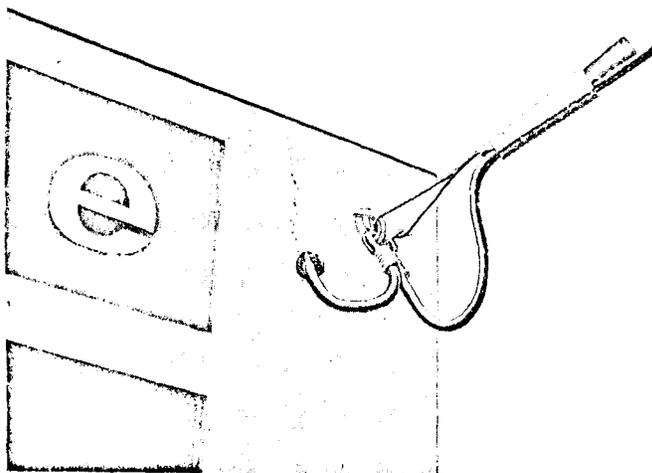
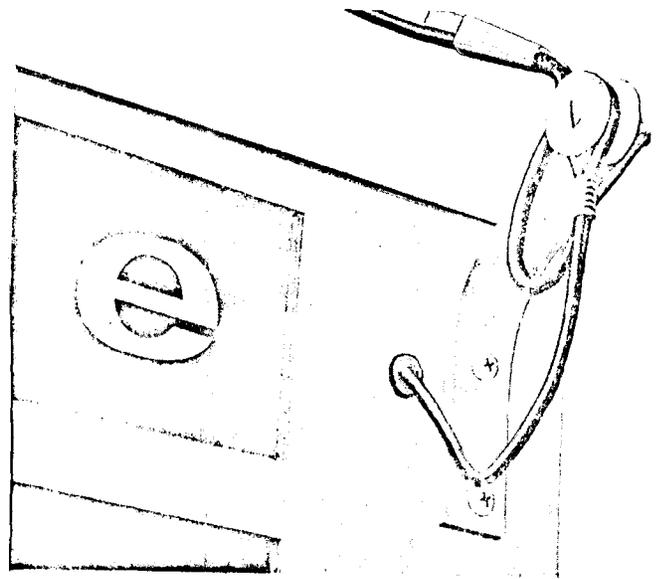

Fig. 4 —Drop Wire Hook for First Attachment
Fig. 5 —Corner Bracket for First Attachment
3.06 Attach drop wire hook (Fig. 4) or corner bracket (Fig. 5) (whichever is required) on right rear column adjacent to the entrance hole as follows: